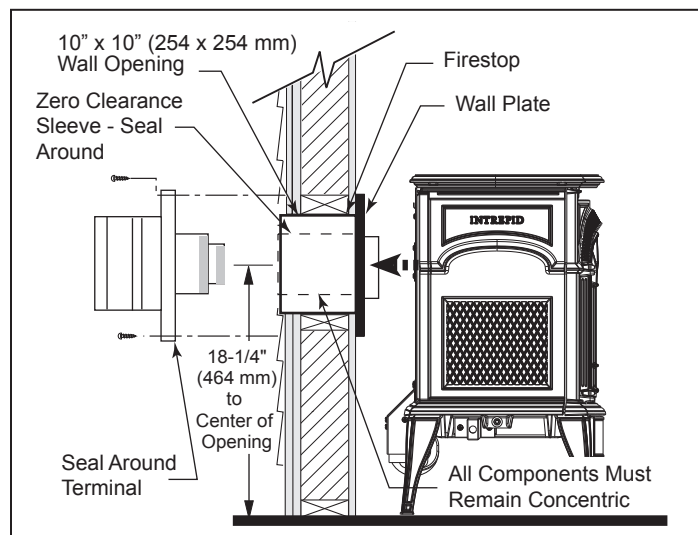

Figure 20 - Intrepid minimum horizontal rear vent installation.
2. Measure the wall thickness and cut the zero clearance sleeve sections to proper length (MAXIMUM 12"). Assemble the sleeve with the #8 sheet metal screws supplied. Attach the firestop plate to the sleeve end with the holes, Figure 20. **NOTE:** The zero clearance sleeve is required in combustible walls only.
5. Install the vent terminal, Figure 20. Guide the inner and outer vent termination collars into the adjacent pipes. Double check that the vent pipes overlap the collars by 2". Fasten the termination to the outside wall with the screws provided, and caulk the joint with weatherproof sealant.